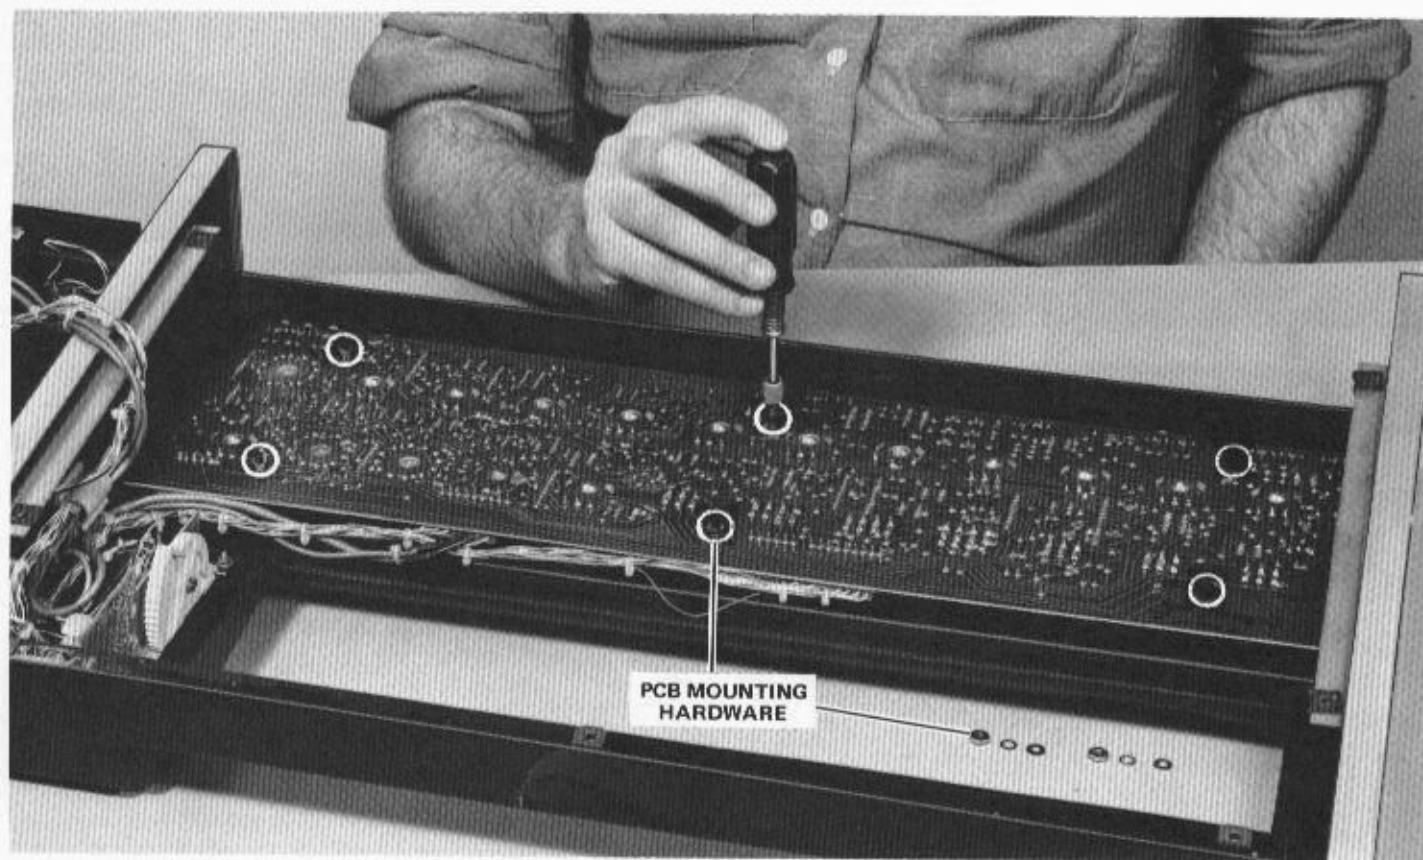
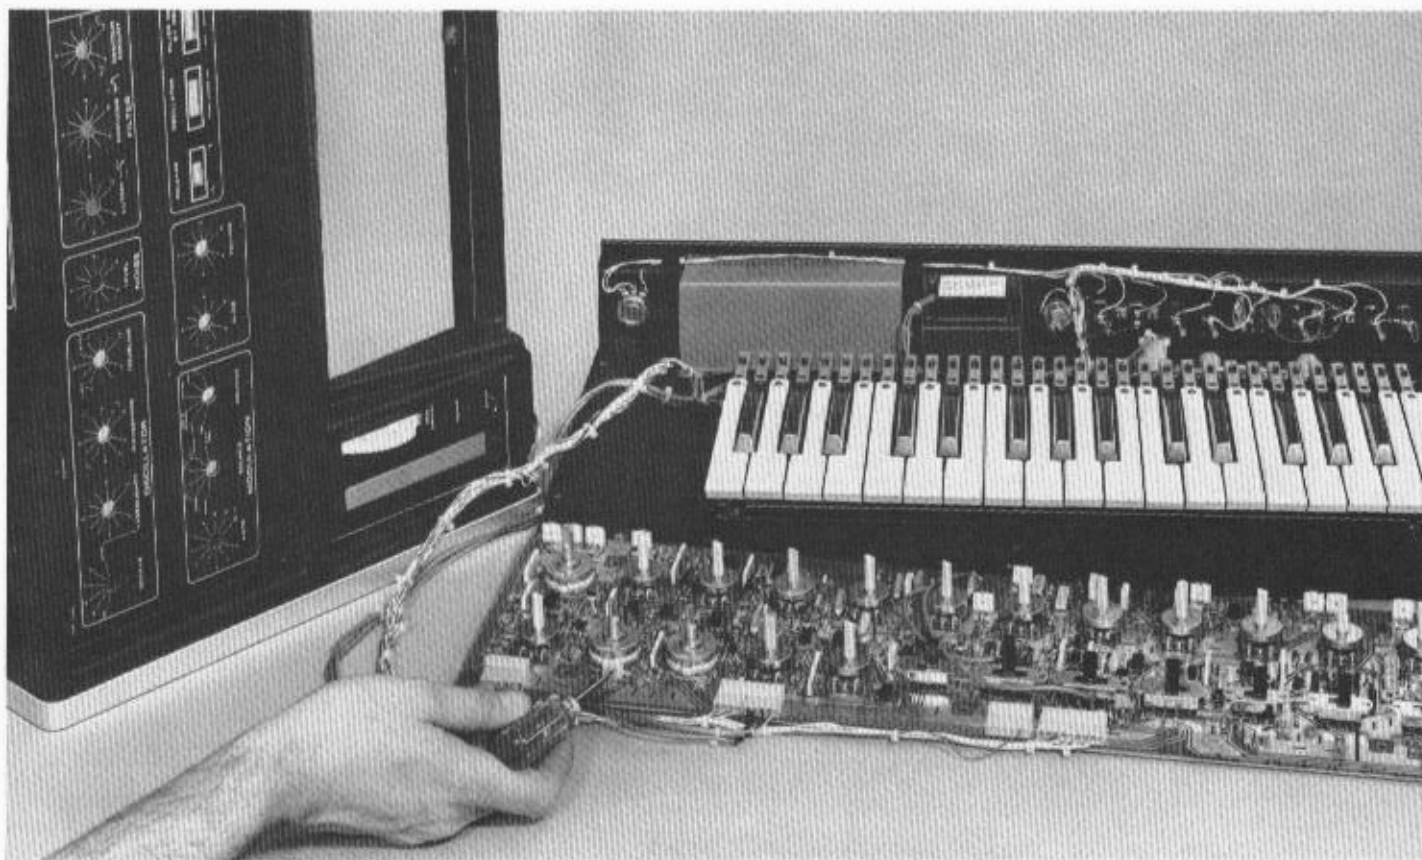

FIGURE 3-12 PC BOARD REMOVAL
FIGURE 3-13 PC BOARD IN SERVICE POSITION
a) Turn case upside down and remove the six nuts that hold the PC board to the case studs (see Figure 3-12). Lift out the PC board and place on bench in front of keyboard. In this service position (see Figure 3-13), all electrical points in the instrument are accessible for testing and probing while the instrument remains fully operable.